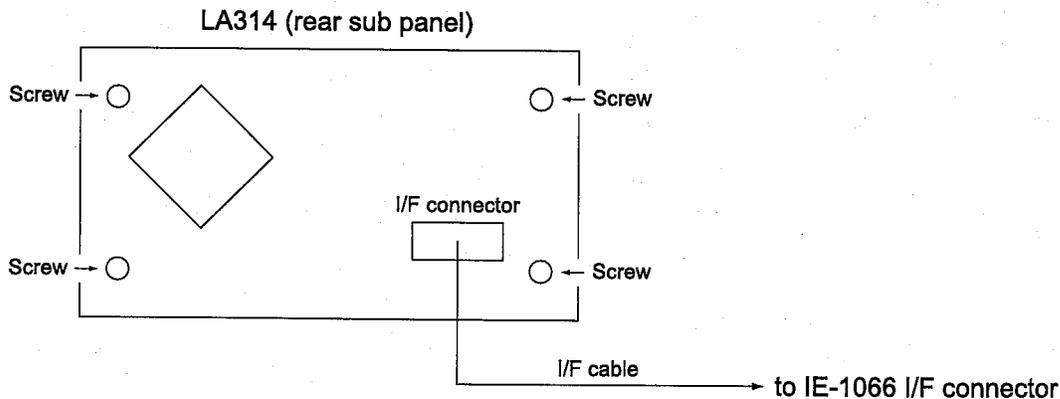

Figure 2.12 Rear Sub Panel of LA314
- ① Connect between the IE-1066 I/F DSUB 9 PIN connector and the LA314 I/F 6 PIN connector with the I/F cable (See Figure 2.12 and 2.13).